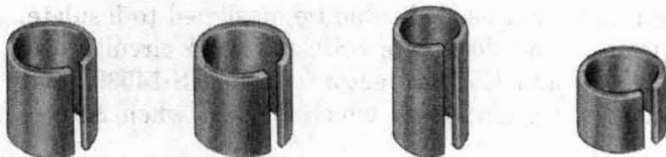

Fig. 7—Binding Post Insulators
- Insulator, Post, Binding, No. 6, Fig. 7
Binding Post Insulators (Fig. 7)